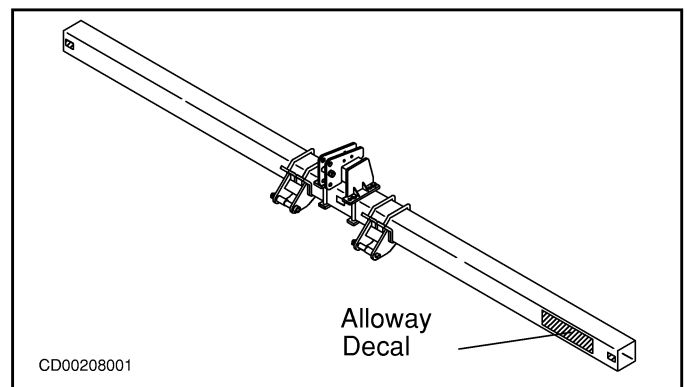

Figure 1 Alloway Decal Position
2. Decide on exact position before removing backing paper. The Alloway decal will be placed on the front right side of the toolbar as shown in Figure 1.